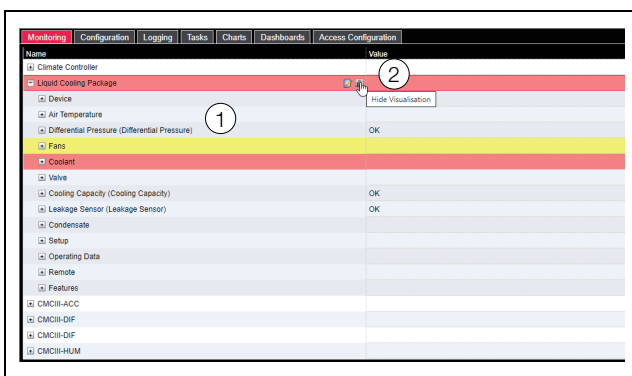

Fig. 125: Tree structure
If, after selecting the "Liquid Cooling Package" level, the subordinate entries "Device", "Air", "Water" etc. are displayed (fig. 125, item 1), you can switch to the graphical representation as follows:
- Press the coloured "Graphics" symbol after the "Liquid Cooling Package" entry in the form of a stylised diagram (fig. 125, item 2).
The display switches to the tree view (fig. 125) and the individual settings for the Liquid Cooling Package may be selected.